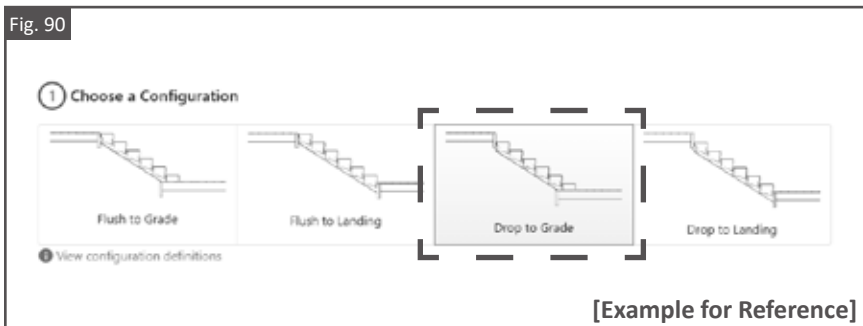

Fig. 91
3. **Determine Rise:** Measure rise (height) from the top of the deck board to the landing (ground) surface. If the decking is not already installed, measure from the top face of framing to landing (ground) surface and add 1” [25mm] to the measurement to account for deck board thickness. As shown in Fig. 91.